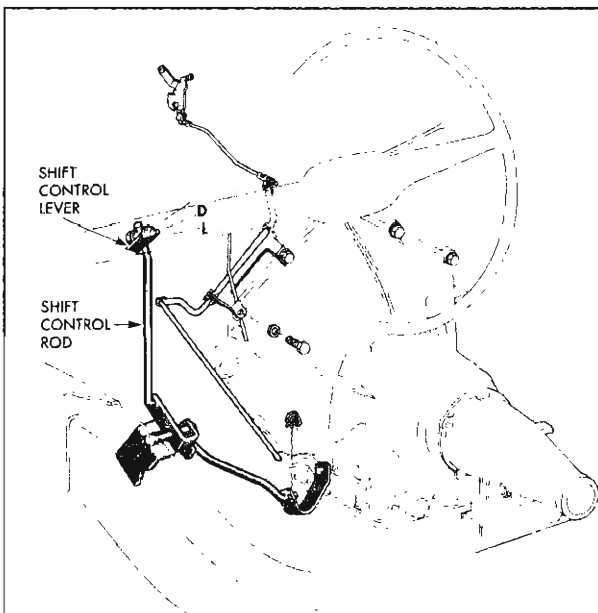

Fig. 2PG—Conventional Shift Linkage Adjustments
3. Place transmission shift control outer lever (fig. 2PG) in Drive position.
NOTE: DRIVE detent in the transmission is the first clockwise detent position from the fully counterclockwise detent or "L" position (see Figure 2PG).
jacket), shown in Figure 2PG, against the DRIVE stop of the range selector lock plate and with control rod through swivel, tighten the clamp nut.